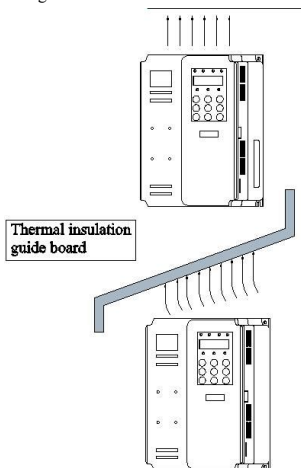

Fig. 3-2 Upper and lower installation drawing of thermal insulation guide board
- 2) Please conduct vertical installation of frequency converter to help heat dissipation upwards. If there are many frequency converts in the cabinet, please install them in parallel. For the occasion where upper and lower installation is required, please see Fig. 3-2 and install thermal insulation guide board.